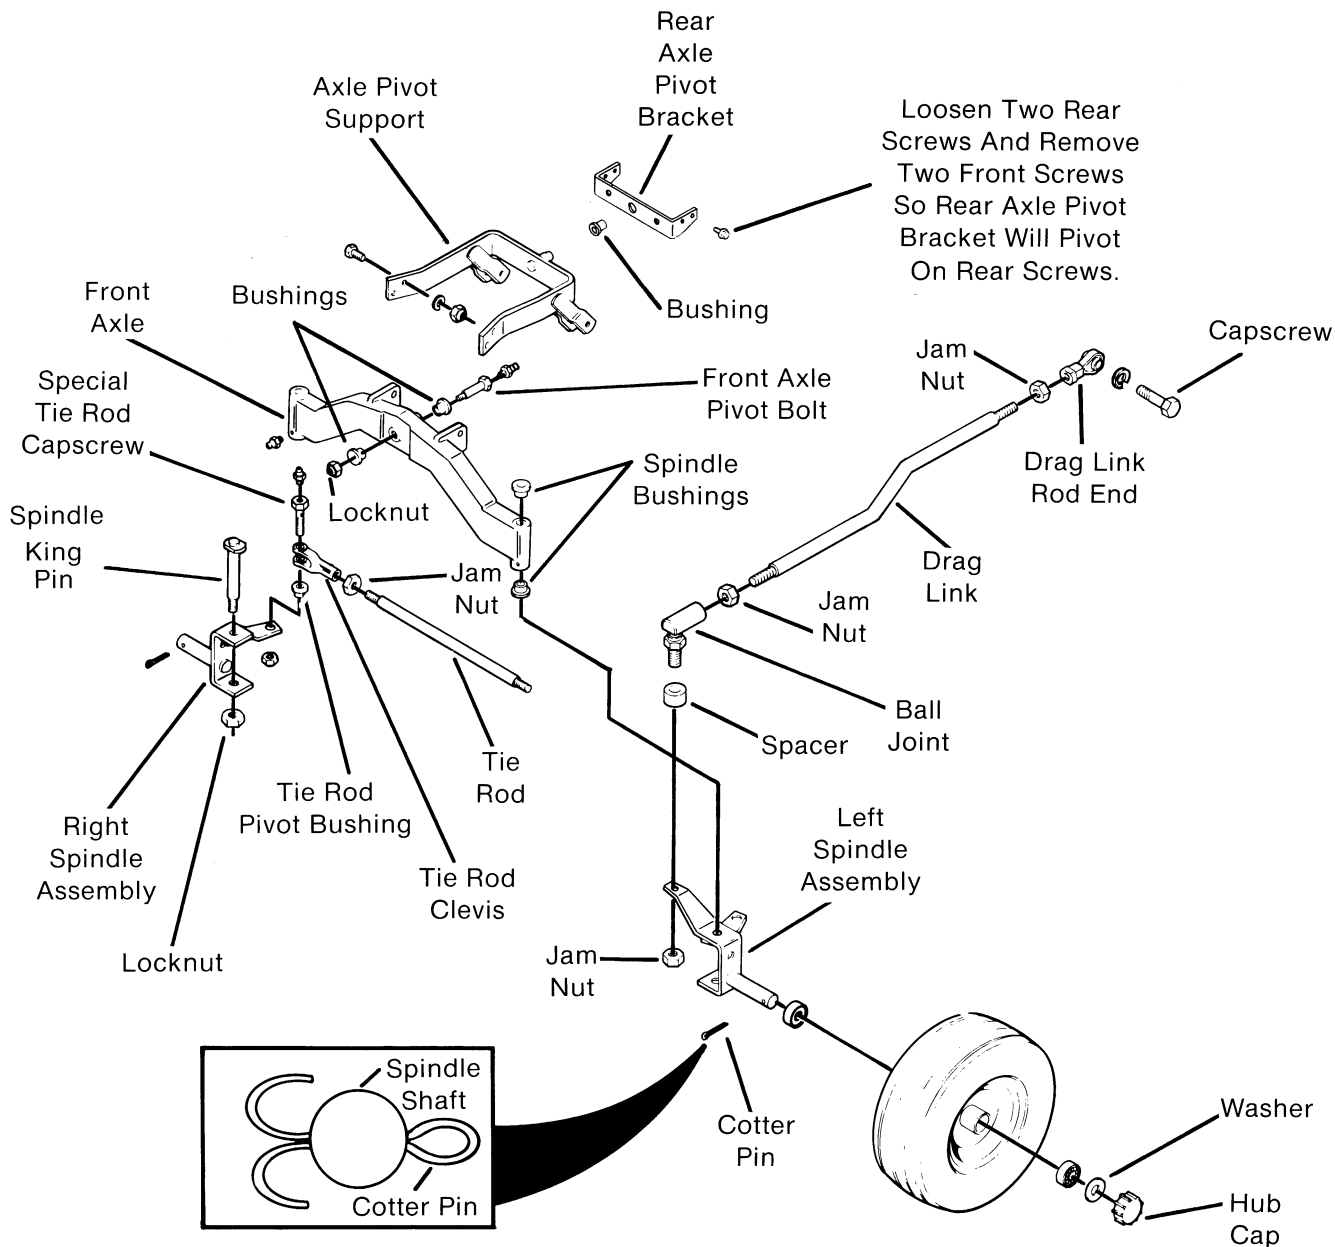

FIG. 23
- C. Remove jam nut on front drag link ball joint under left spindle assembly steering arm. (Fig. 23)
- D. Remove ball joint from left spindle assembly steering arm by threading ball joint out of steering arm. Ball joint spacer between ball joint and steering arm should be removed also at this time. (Fig. 23)
- E. Loosen (do not remove) two rear capscrews holding rear axle pivot bracket to main frame. Remove two front capscrews completely. (Fig. 23)
- F. Holding locknut on front of axle, remove front axle pivot bolt and pull bolt out towards rear of machine. (Fig. 23)
- C. Service tie rod assembly as required. Also, check condition of pivot bushings in spindle assembly. Replace bushings if worn. (Fig. 23)
- B. Remove hub cap, cotter pin and washer from end of spindle shaft. (Fig. 23)
NOTE: When replacing cotter pin into spindle shaft, cotter pin should be spread properly around spindle shaft. See detail (Fig. 23). This will prevent cotter pin from destroying hub cap.
- D. Remove locknut and special capscrew attaching tie rod clevis to spindle assembly. Remove pivot bushing from spindle assembly. (Fig. 23)
- E. Remove locknut on bottom of spindle king pin. Remove king pin. (Fig. 23)
- F. **On left spindle only!** Remove jam nut on front drag link ball joint under left spindle assembly steering arm. Remove ball joint from left spindle assembly steering arm by threading ball joint out of steering arm. Ball joint spacer between ball joint and steering arm should be removed also at this time. (Fig. 23)
- Remove capscrew and lockwasher attaching rear draglink rod end to pitman arm (Fig. 23)
- Remove jam nut on front drag link ball joint under left spindle assembly steering arm. (Fig. 23)
- Remove ball joint from left spindle assembly steering arm by threading ball joint out of steering arm. Ball joint spacer between ball joint and steering arm should be removed at this time. (Fig. 23) Remove drag link assembly.
- Loosen jam nut on left end of tie rod securing tie rod clevis to tie rod. (Fig. 23)
- Remove special capscrew (w/grease fitting) at left end of tie rod by removing the locknut. (Fig. 23)